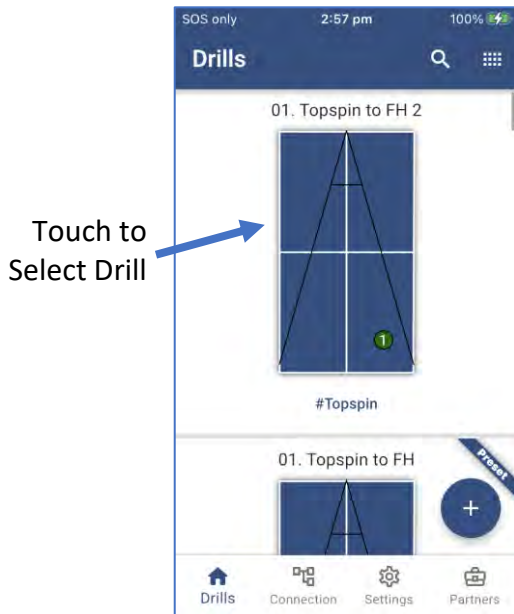

Figure 3-41
1. From the main Drill screen, select the Drill called "01. Topspin to FH 2". by touching/pressing the drill name or table icon below the name. (Figure 3-41)
4. Press the Exit Drill Editing icon to return to the main Drills screen (Figure 3-41).